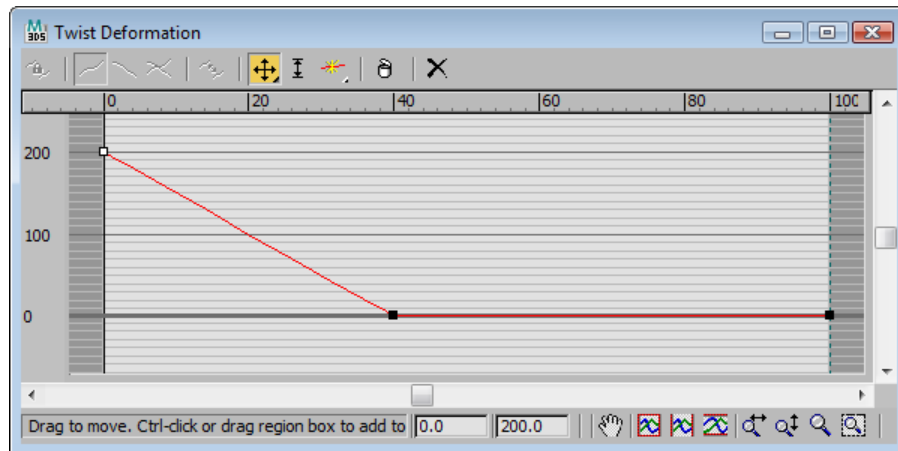

Figure 9-6A A vertex is added and the left vertex is moved.
3. Pick the **Move Control Point** button and move the left vertex up to 200° (200 is displayed in the right-hand text box). If 200 is not visible in the graph, use the scroll bar to view the point, **Figure 9-6A**.